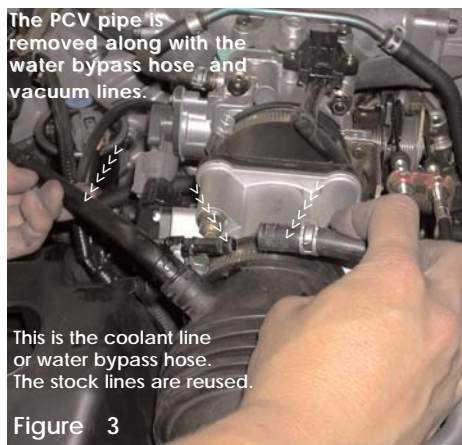
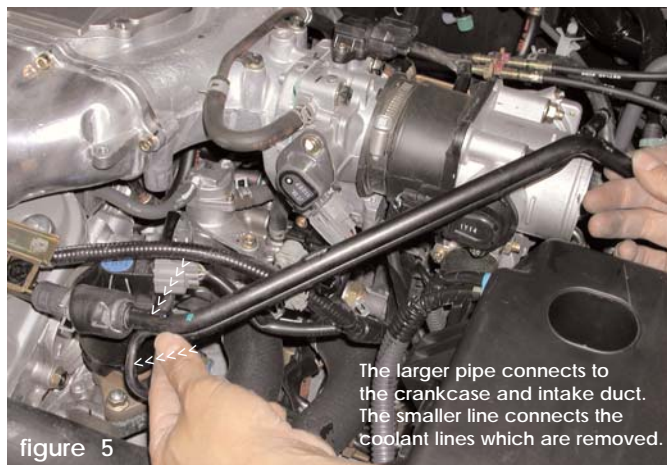

Figure 3
figure 5
- 3 Remove the PCV pipe joining the water bypass hose and vacuum hose. Use the 1/4" coupler in this kit to join the two stock coolant lines removed from the small PCV pipe. The two lines reconnected are stock lines at thermostat housing and the secondary throttle body the stock clamps are used to secure the lines. (See fig. 3,4 & 5) The large PCV pipe removed is the line connecting the crankcase and air intake duct. (See fig. 5)